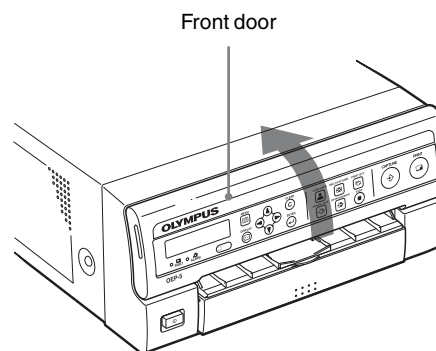

Figure 3.9
- 8** Close the front door of the color video printer (OEP-5) (see Figure 3.9).